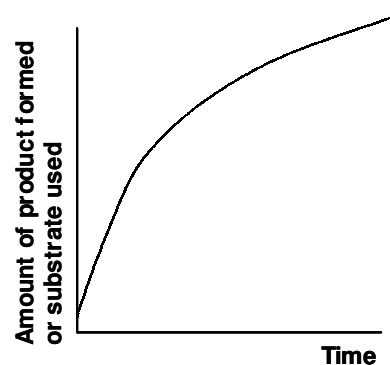
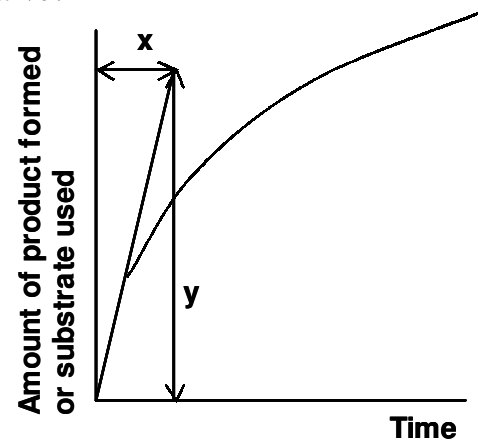

Figure A2 Course of an enzyme-catalysed reaction.
Figure A3 Measuring the initial velocity from the progress curve
Although hundreds of different enzymes are known, the same general approach may be used for the study of any of them. The speed of any enzyme-controlled reaction can be measured either by the disappearance of the substrate or by the appearance of the product. The amount measured is plotted against time as shown in Figure A2.
A3 Describe the course of an enzyme-catalysed reaction as shown by the shape of the curve in Figure A2.
The graph shown in figure A2 is known as a progress curve or an enzyme-controlled reaction. The speed or velocity of the reaction at any moment is the slope of the curve at that time, i.e. the rate at which the substrate is disappearing or the product is being formed. Experimenters try to measure the initial velocity of reaction, which is found by drawing a tangent to the progress curve at the start of the reaction as shown in Figure A3.
To produce a progress curve for any enzyme reaction (Students' Manual A - figure A2), where the amount of substrate or product is plotted against time, quantitative results are needed. This means that actual measurements of the quantity of substrate, such as starch remaining, or product, such as maltose accumulating, must be taken at regular time intervals. This involves using an instrument such as a colorimeter or chemical analysis procedures both of which are more complicated and time consuming, but necessary in the study of enzyme kinetics. Table B1 shows some typical results that can be obtained by measuring the amount of maltose present at various time intervals during the hydrolysis of starch. The temperature and pH were kept constant.
*C1 Is the curve you obtain similar to the progress curve shown on Students' Manual A, Figure A2?*
*D1* How do your computer outputs compare with the progress curve in *Students' Manual A, Figure A2*?